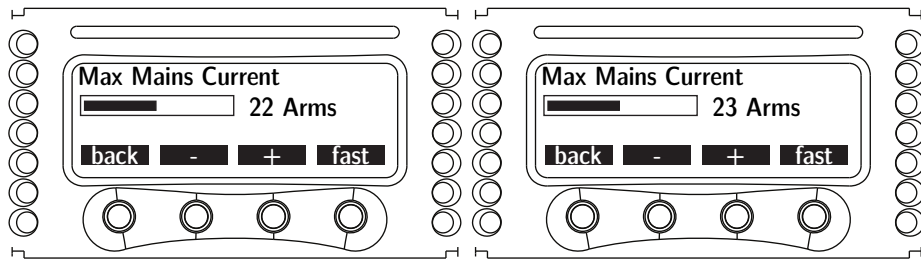

Figure 16: Slow parameter increase
- in "slow" mode: a single + button press will increase the Max mains current from 22 A to 23 A (figure 16)